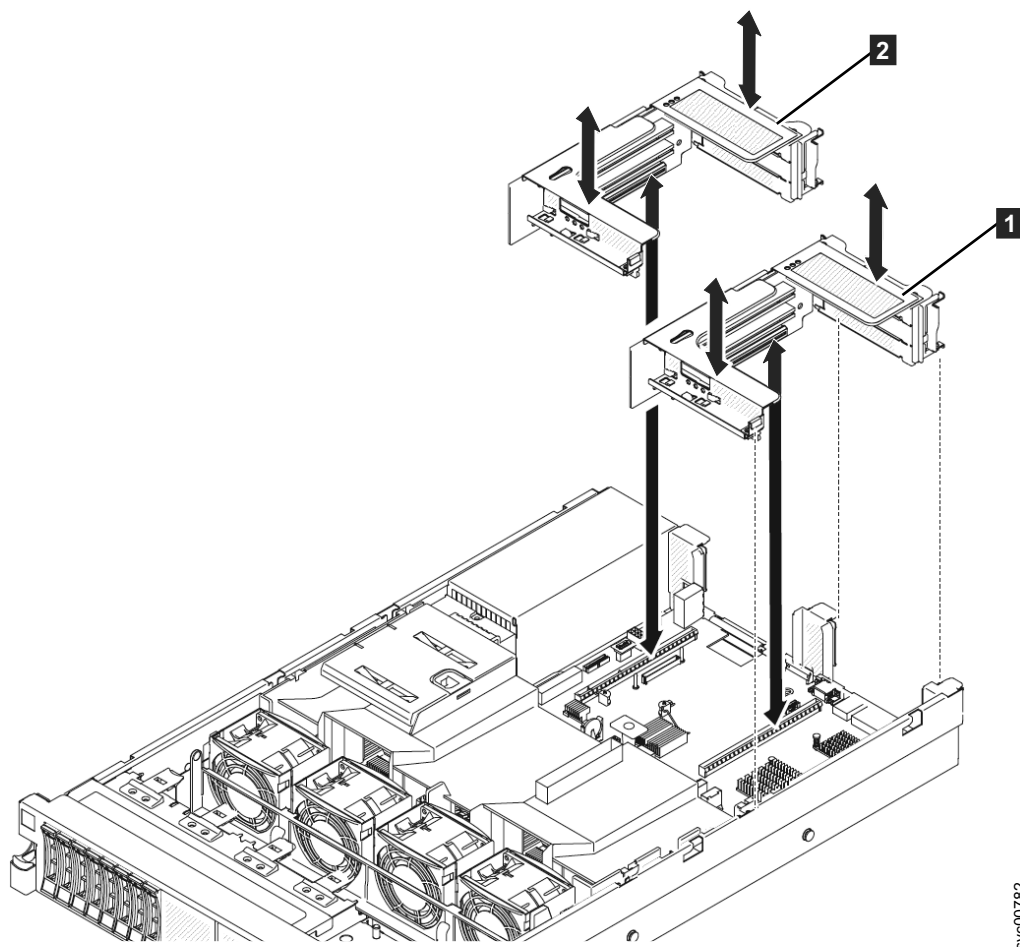

Figure 149. Removing the 2145-DH8 PCI express riser card assembly
- PCI riser slot 1 **1** (the slot farther from the power supplies). You must install a PCI riser-card assembly in slot 1. See Figure 149 on page 177.